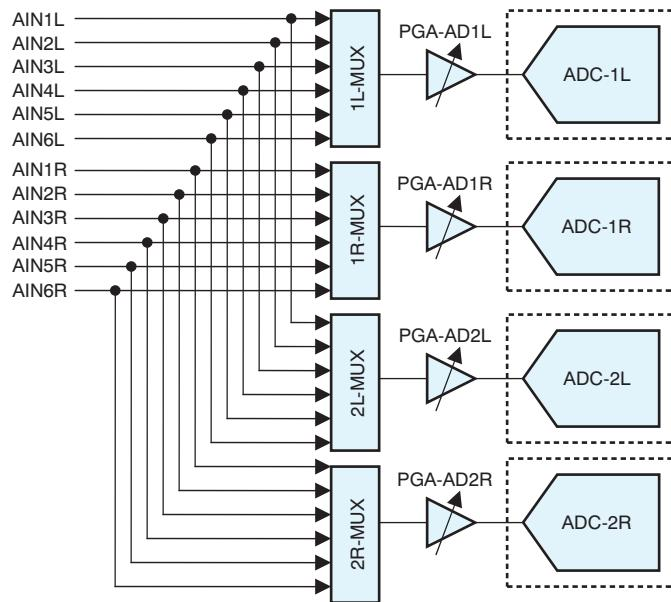

Figure 28. Analog Inputs
The PCM5310 includes a four-channel analog-to-digital converter (ADC) with a programmable gain amplifier (PGA) and six stereo analog inputs with a 2-V_{RMS} input. Pins AIN1L/1R to AIN6L/6R are connected to the ADC left (L) or right (R) channel through the analog multiplexer (mux) and PGA, as shown in Figure 28. If the analog input voltage level is less than 2 V_{RMS}, it can be amplified by using the PGA. The gain level can be set to 9 dB, 6 dB, or 3 dB. The descriptions for the analog input registers are shown in Table 1.